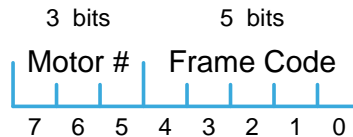

Figure 3: Motor Control Protocol Header structure
- The **Header** field is an 8-bit data that identifies what the target of the frame is. It is split into two parts, as outlined in Figure 3: Motor Control Protocol Header structure: